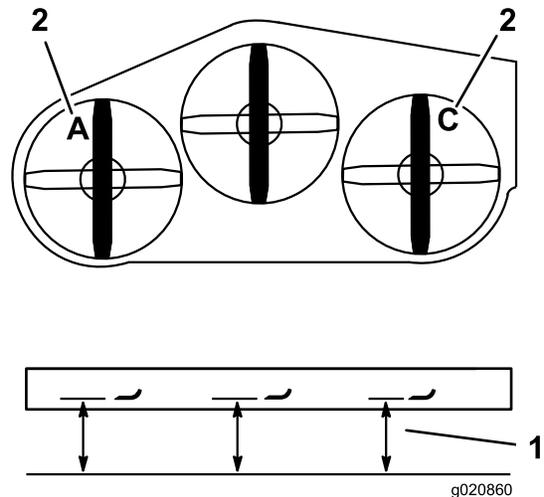

Figure 86
3. Measure the left blade at the **A** location, from a level surface to the cutting edge of the blade tip and record this measurement (Figure 86).
4. Measure the right blade at the **C** location, from a level surface to the cutting edge of the blade tip and record this measurement (Figure 86).
3. Measure the right blade at location **C**, from a level surface to the cutting edge of the blade tip and record this measurement (Figure 86).